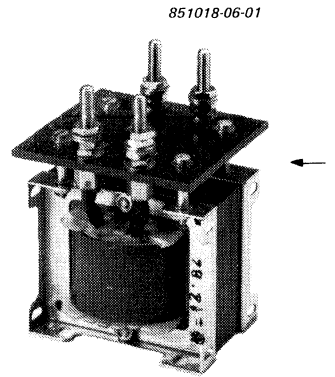

Fig. 28 Example of a choke.
- C) For **electrical parallel connection** order also chokes (Fig. 28); see column 3 of the table.